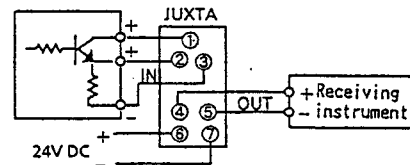

Fig. 11 Diagram 2
- ③ To receive dry voltage contact pulse, connect input cable to repeater terminals 2(+), 3(-). (See Fig. 11 : Diagram 2)